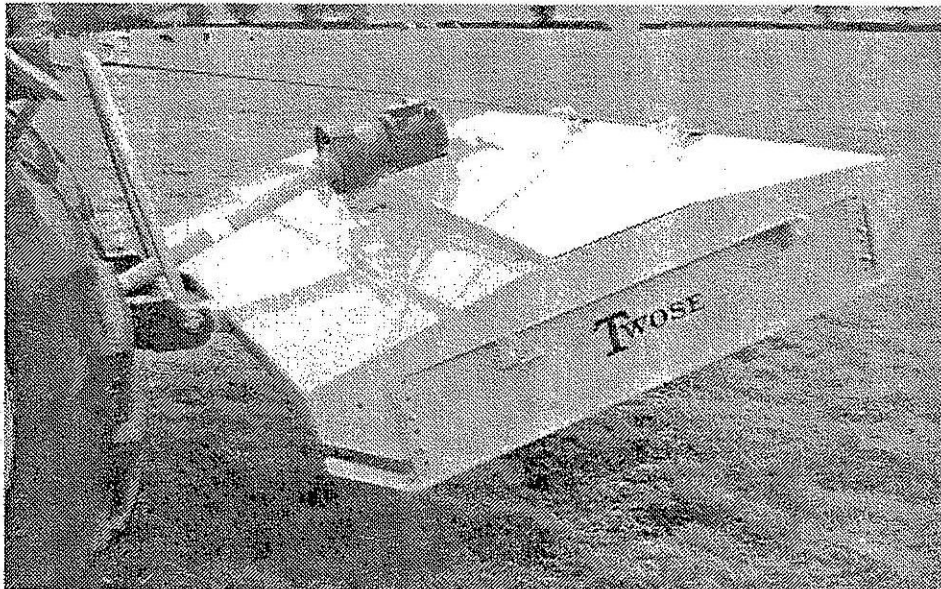

Fig. 4 P.T.O Shaft Setting Height
- (c) When lifting Rotary Topper, ensure that P.T.O shaft does not foul, see Fig. 4. To prevent this, set the hydraulic stop to a safe height or shorten top link. Manufacturers cannot be held responsible for damage to the P.T.O. caused by failure to apply these precautions.